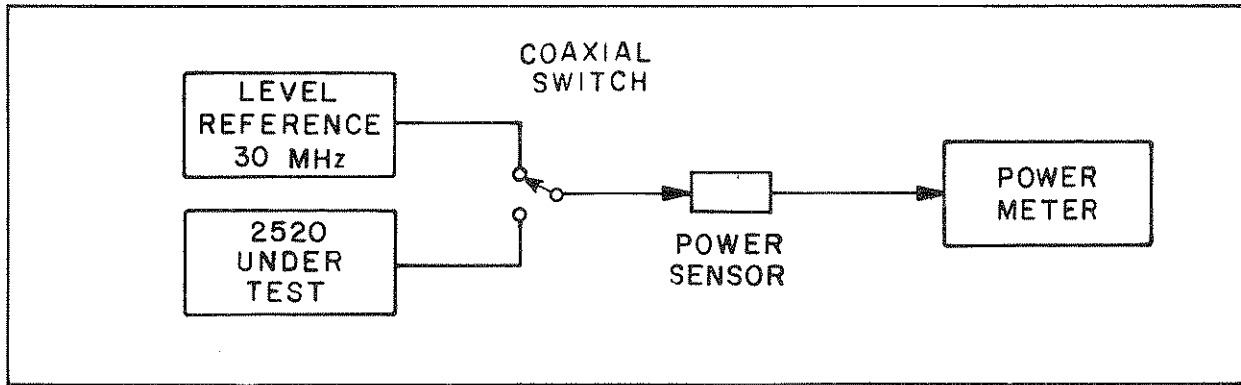

Figure 6-101. Comparison of Measurements on a Power Meter
1. Setup. Refer to Table 6-1, Test Equipment Required, for a description of the test equipment used in this test. Refer to the Operation section as required. Power up the equipment and let it warm up for 5 or 10 minutes. Connect the 2520 and the 30 MHz Reference to the input of a coaxial RF switch, as shown in Figure 6-101, and connect the output of the switch to a high sensitivity power sensor (to -70
4. Connections for Calibration. Connect the 2520 and the 30 MHz Reference to the input of a two position coaxial RF switch, and connect the output of the switch to a power sensor as shown in Figure 6-101. Do not use cables, but instead use four rigid 90 degree type N adapters. Then connect the sensor output to a power meter. Put the power meter in watts mode for best resolution.